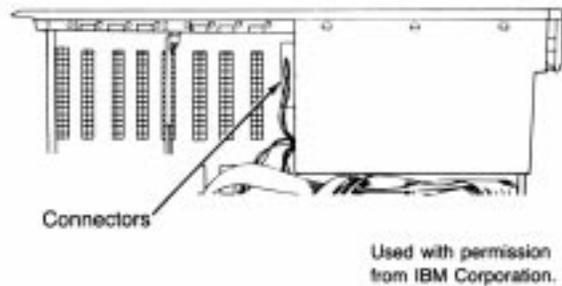

Fig. 3.18
2. Disconnect the cables from the power supply to the motherboard (see fig. 3.18). Disconnect the power cables from the power supply to the disk drive. Always grasp the connectors themselves; never pull on the wires.